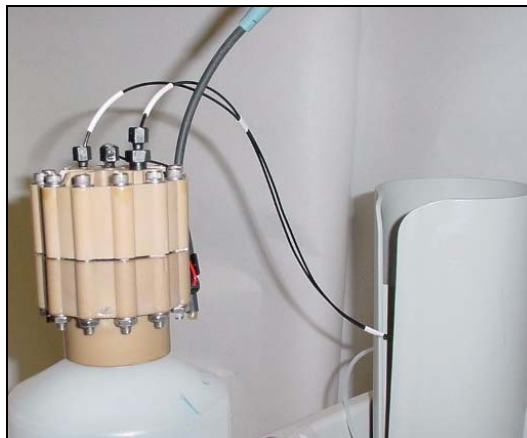

Figure 86. EluGen Cartridge Port Connections
4. Connect the **EGC IN** line to the EluGen cartridge **INLET** port (see Figure 86).